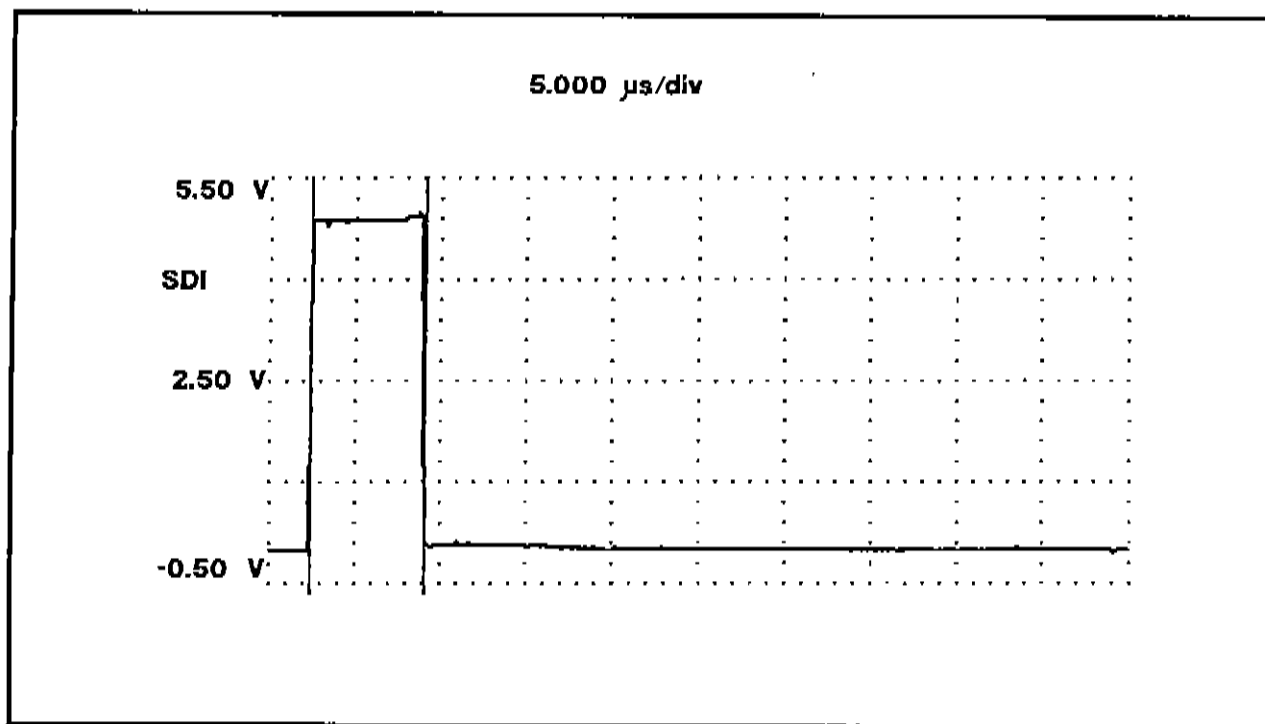

Figure 3-30. TEST 2 or COMMON 2 Scanner PCB SDI Waveform.
12. While running the Relay Check utility, observe the TEST 2 Scanner PCB SDI (Serial Data In) at U2-pin 2 and compare it to Figure 3-30. If different, then troubleshoot U1 for possible fault.
21. While running the Relay Check utility, observe SDI on the COMMON 2 Scanner PCB at U2-pin 2 (Serial Data In) and compare to Figure 3-30. If not similar, then troubleshoot U1 for possible fault.